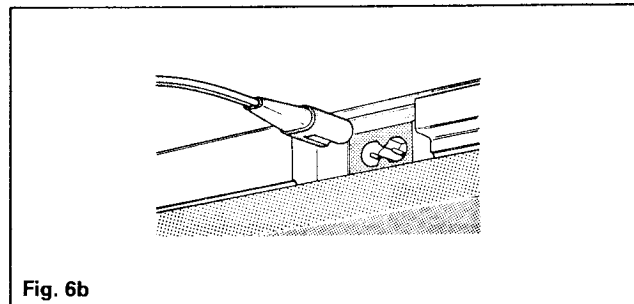

Fig. 6b
- 1 Attach the plug of the Garrard connecting lead to the power supply input socket on the back of the base, see figure 6b.